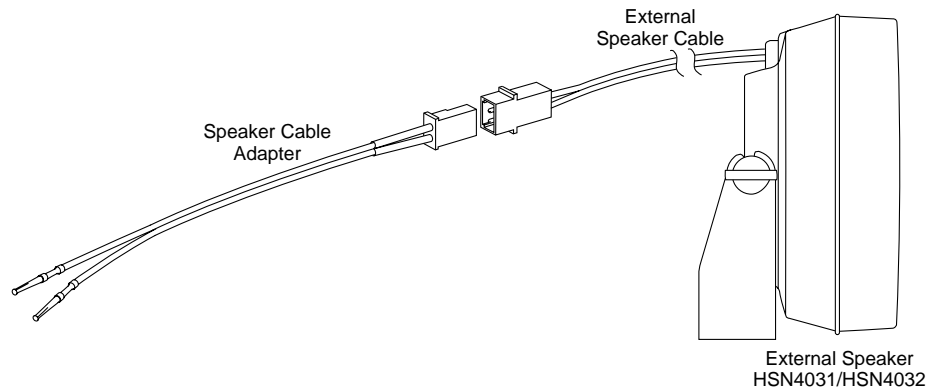

Figure 25A.
2. For speaker kits HSN4031 and HSN4032, connect speaker cable adapter to external speaker cable (see Figure 25A.).